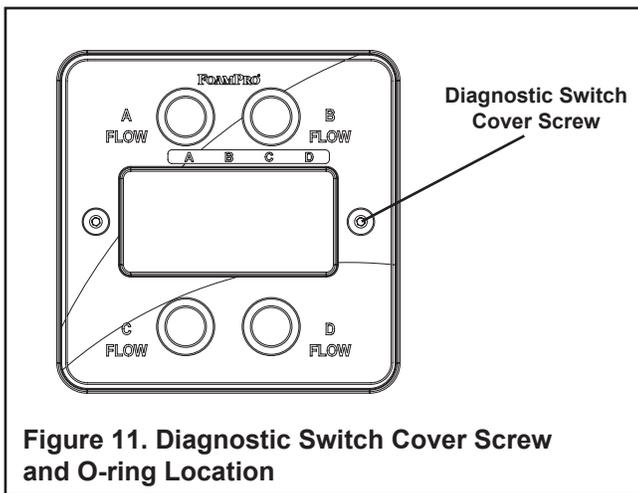

Figure 11. Diagnostic Switch Cover Screw and O-ring Location
1. Diagnostic mode is entered by removing the screw and O-ring on the right-hand side of the MultiFlo Control Module (see Figure 11) using a 3/32" Allen wrench.